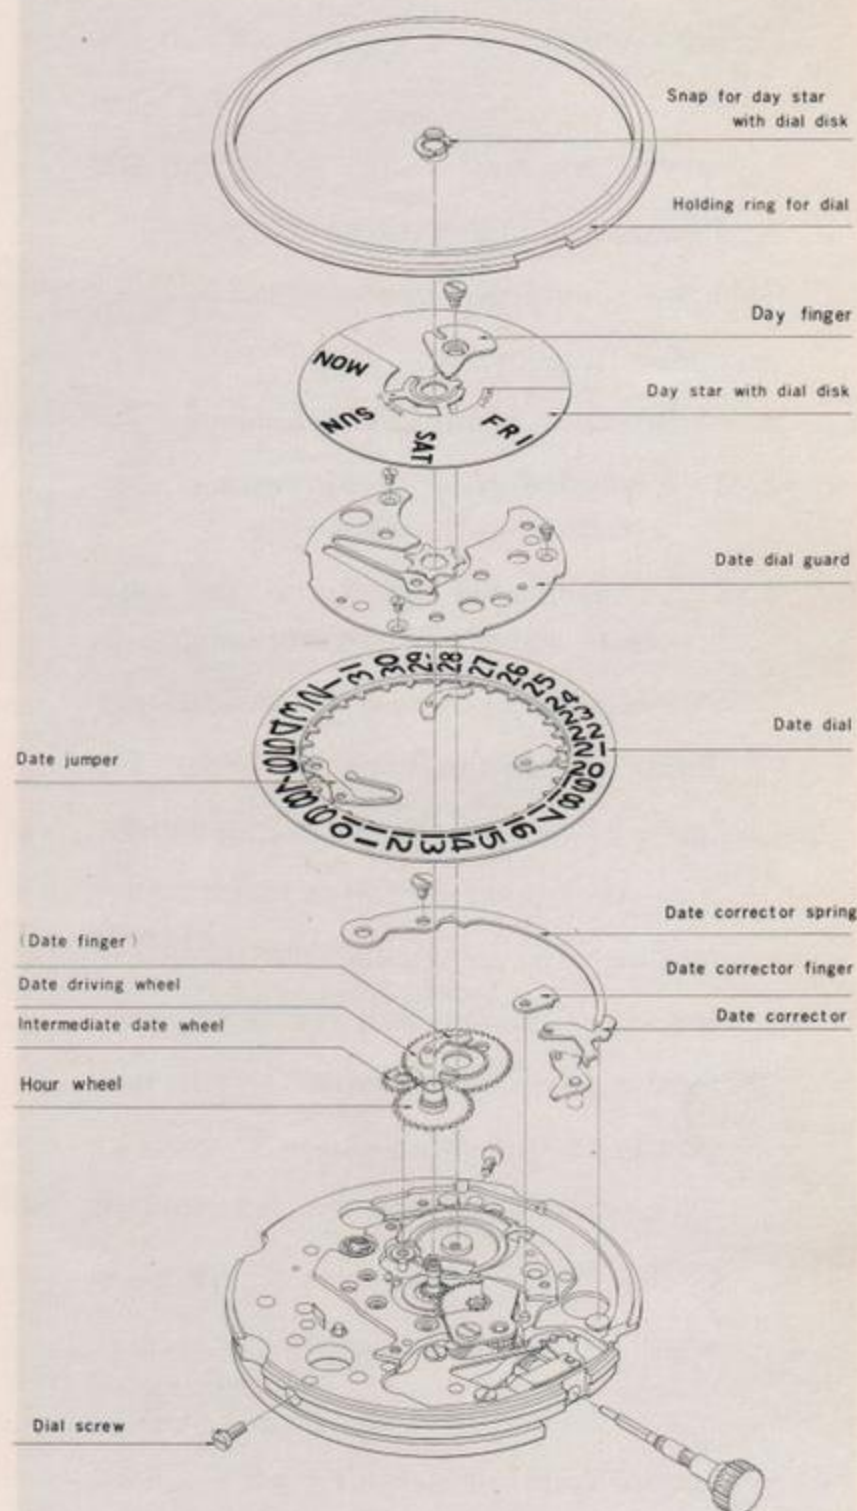

Fig. 3
3.-1 Exploded view of calendar mechanism (Fig. 3)
(Fig. 3)
The position of day star with dial disk in the upper and lower directions is obtained by the snap for day star with dial disk. (Fig. 3)